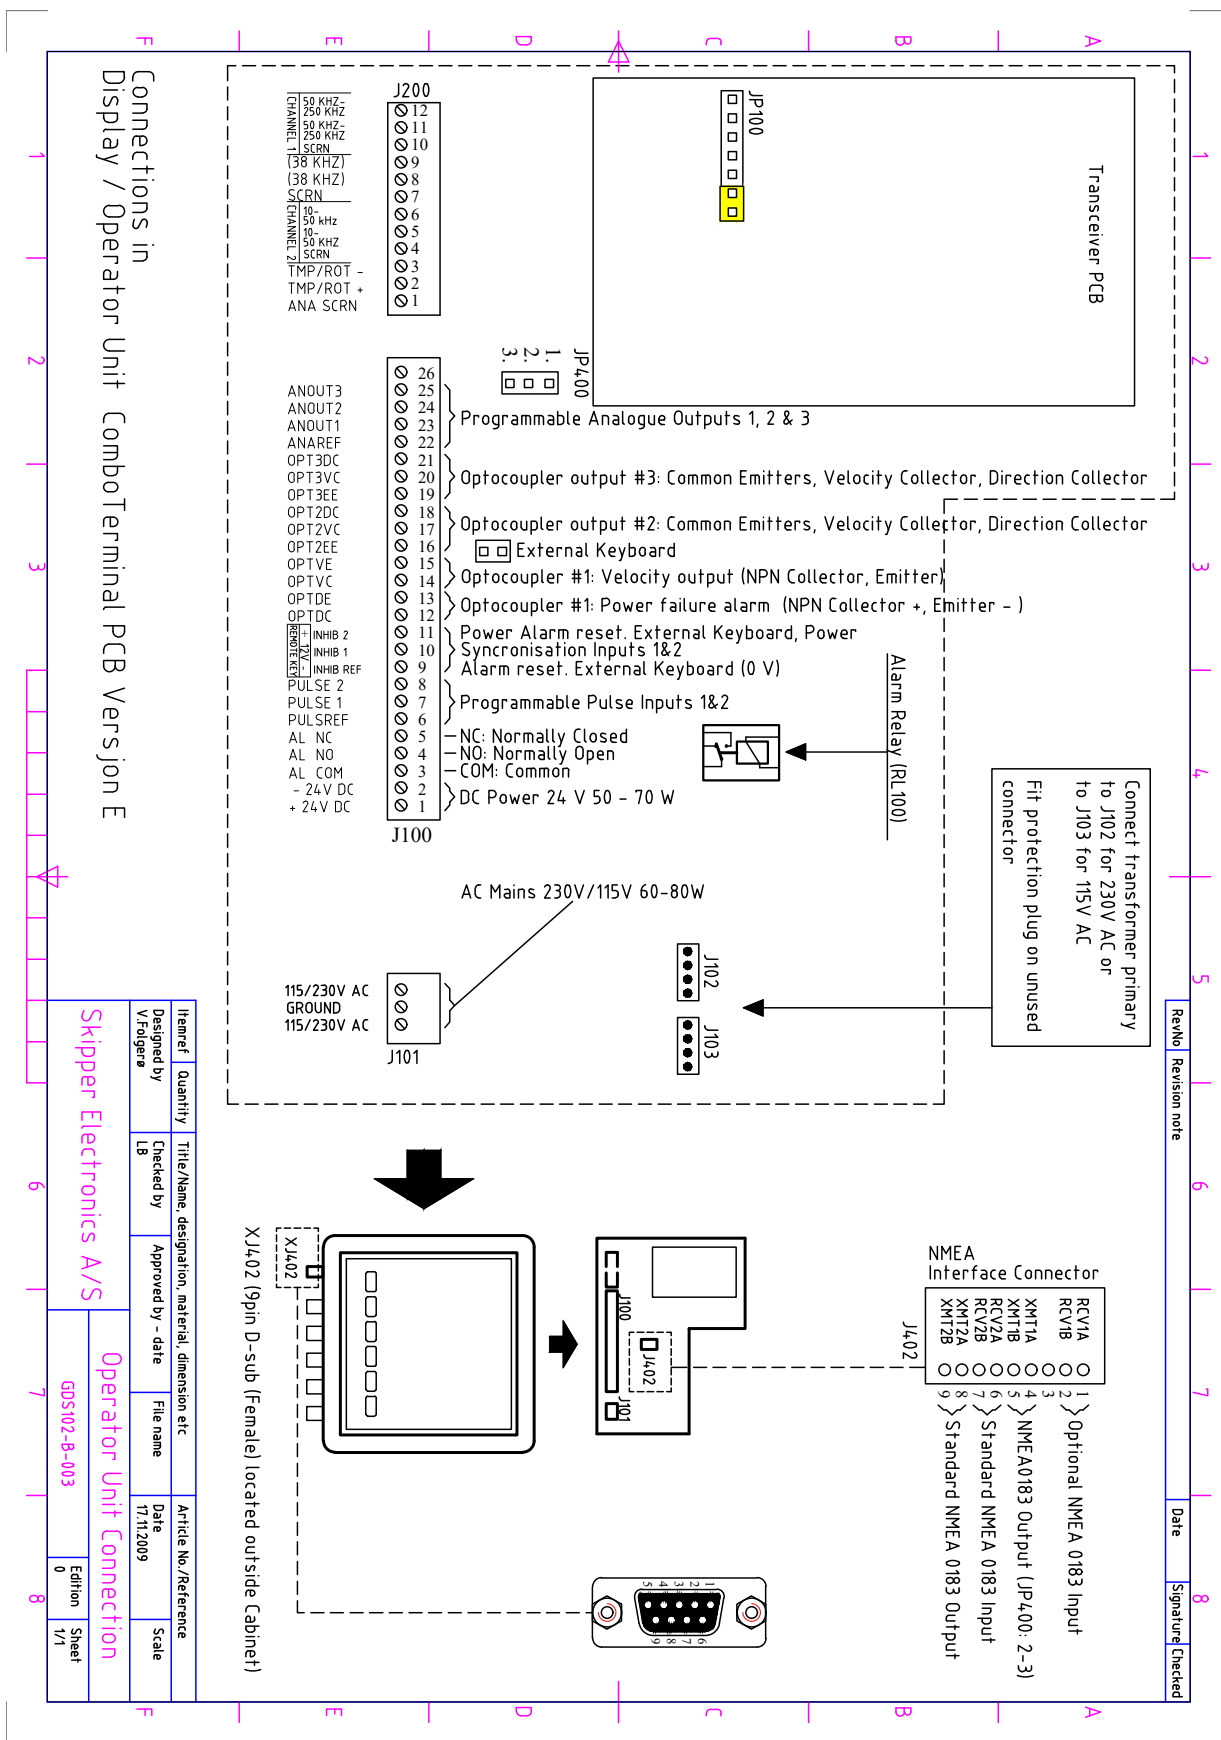
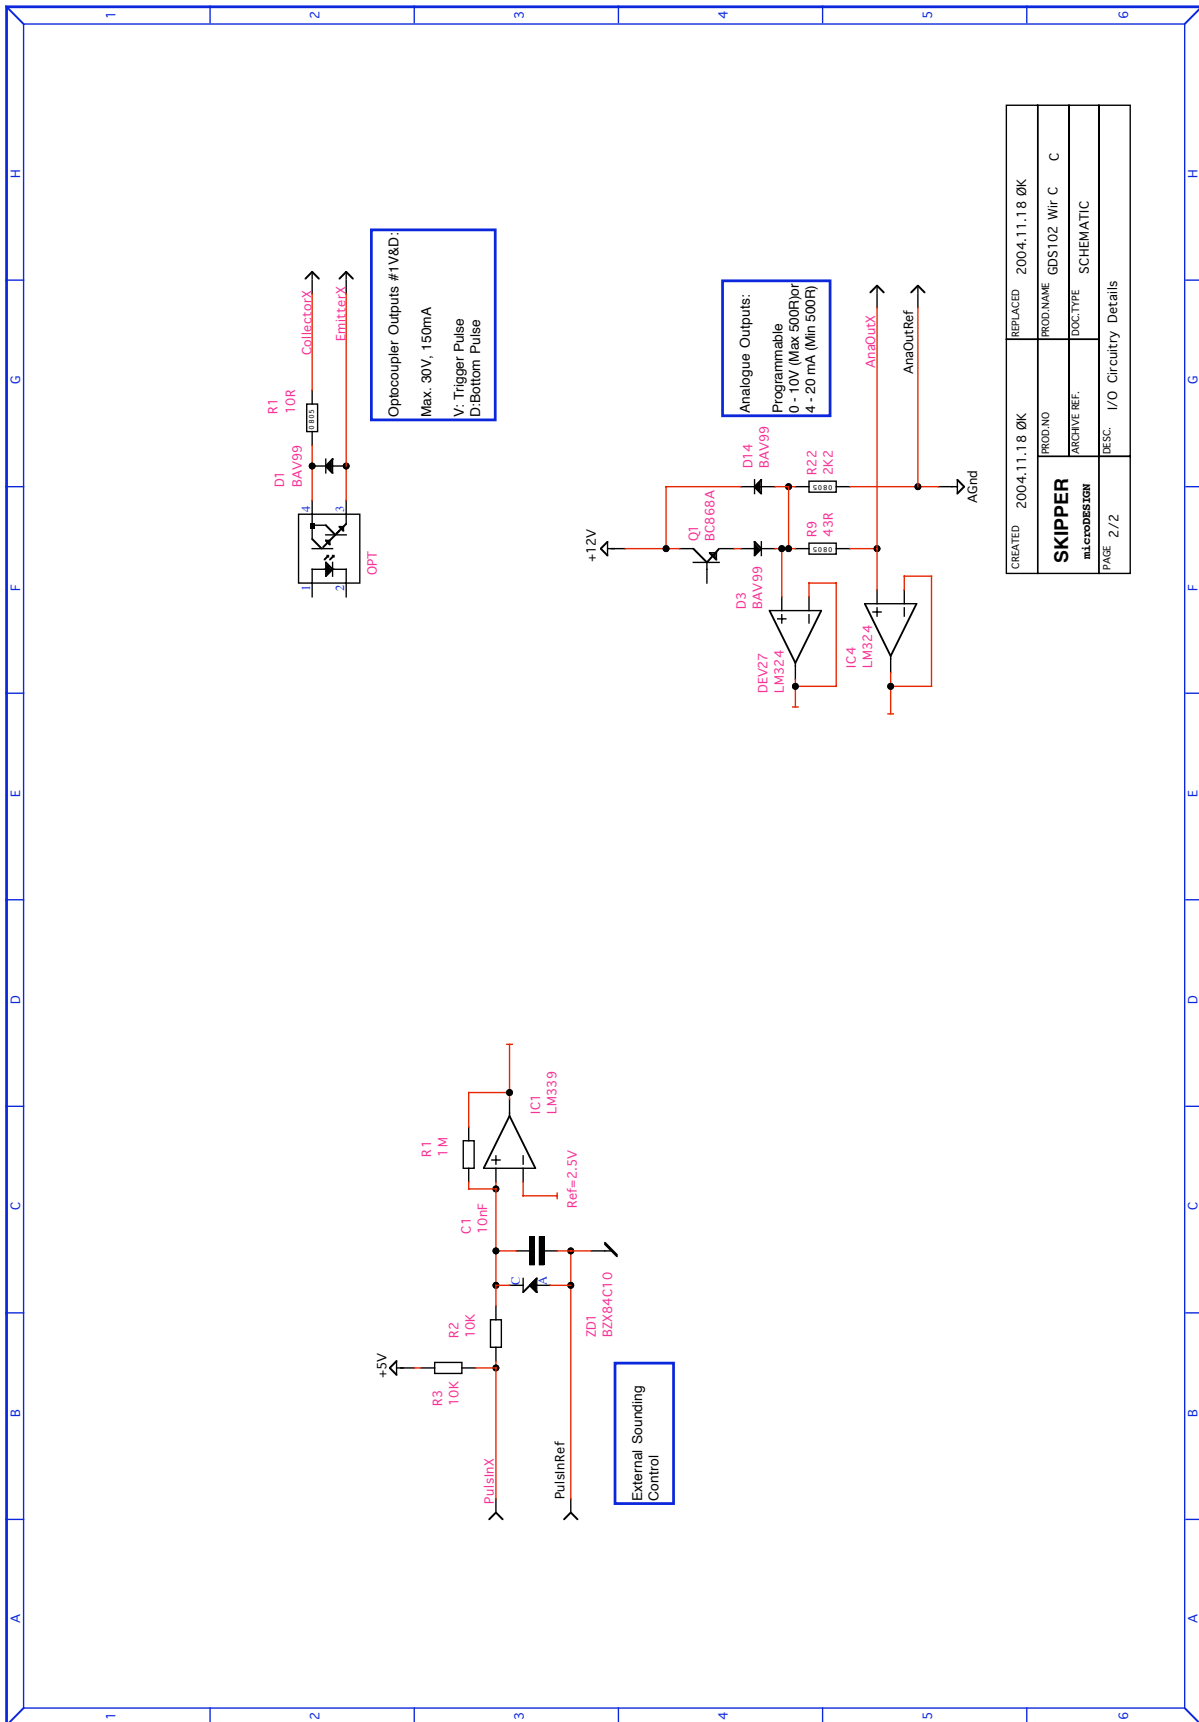
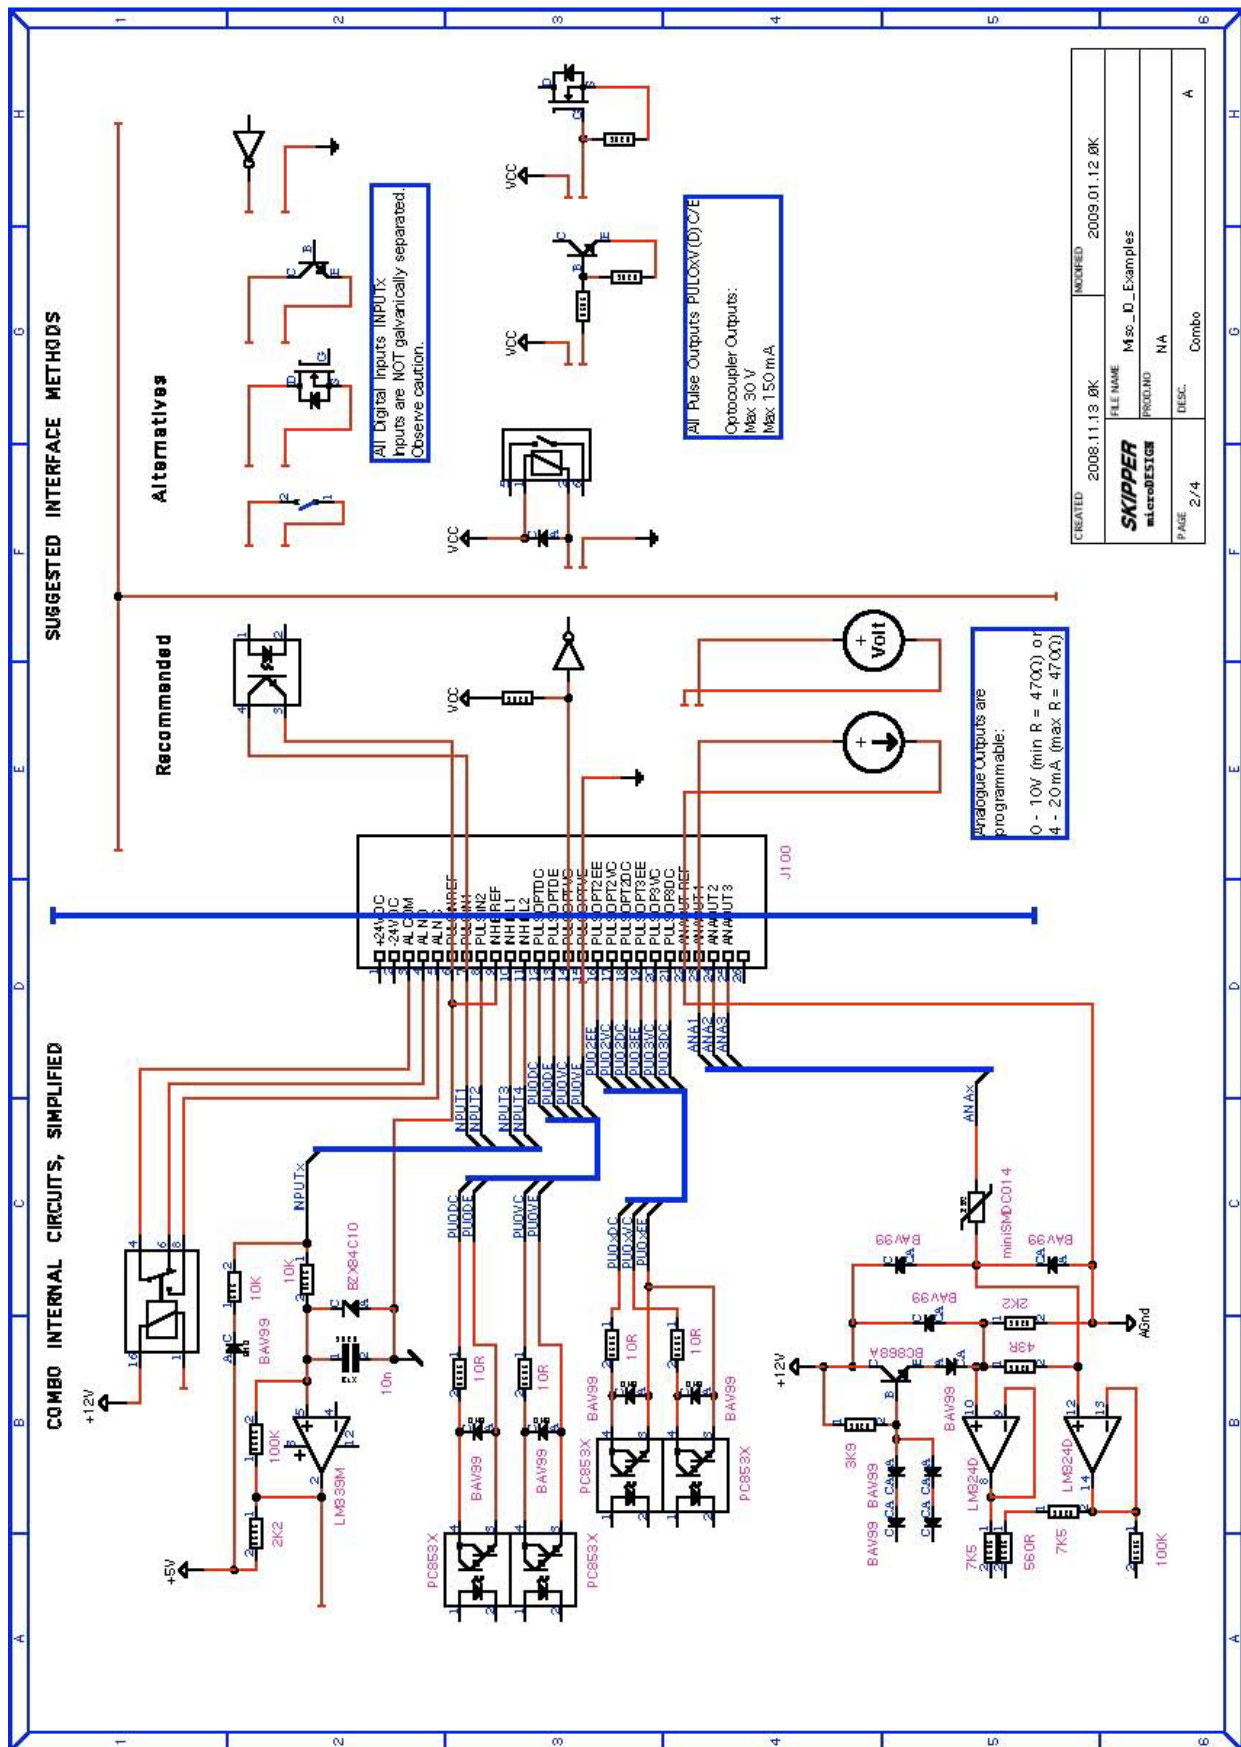
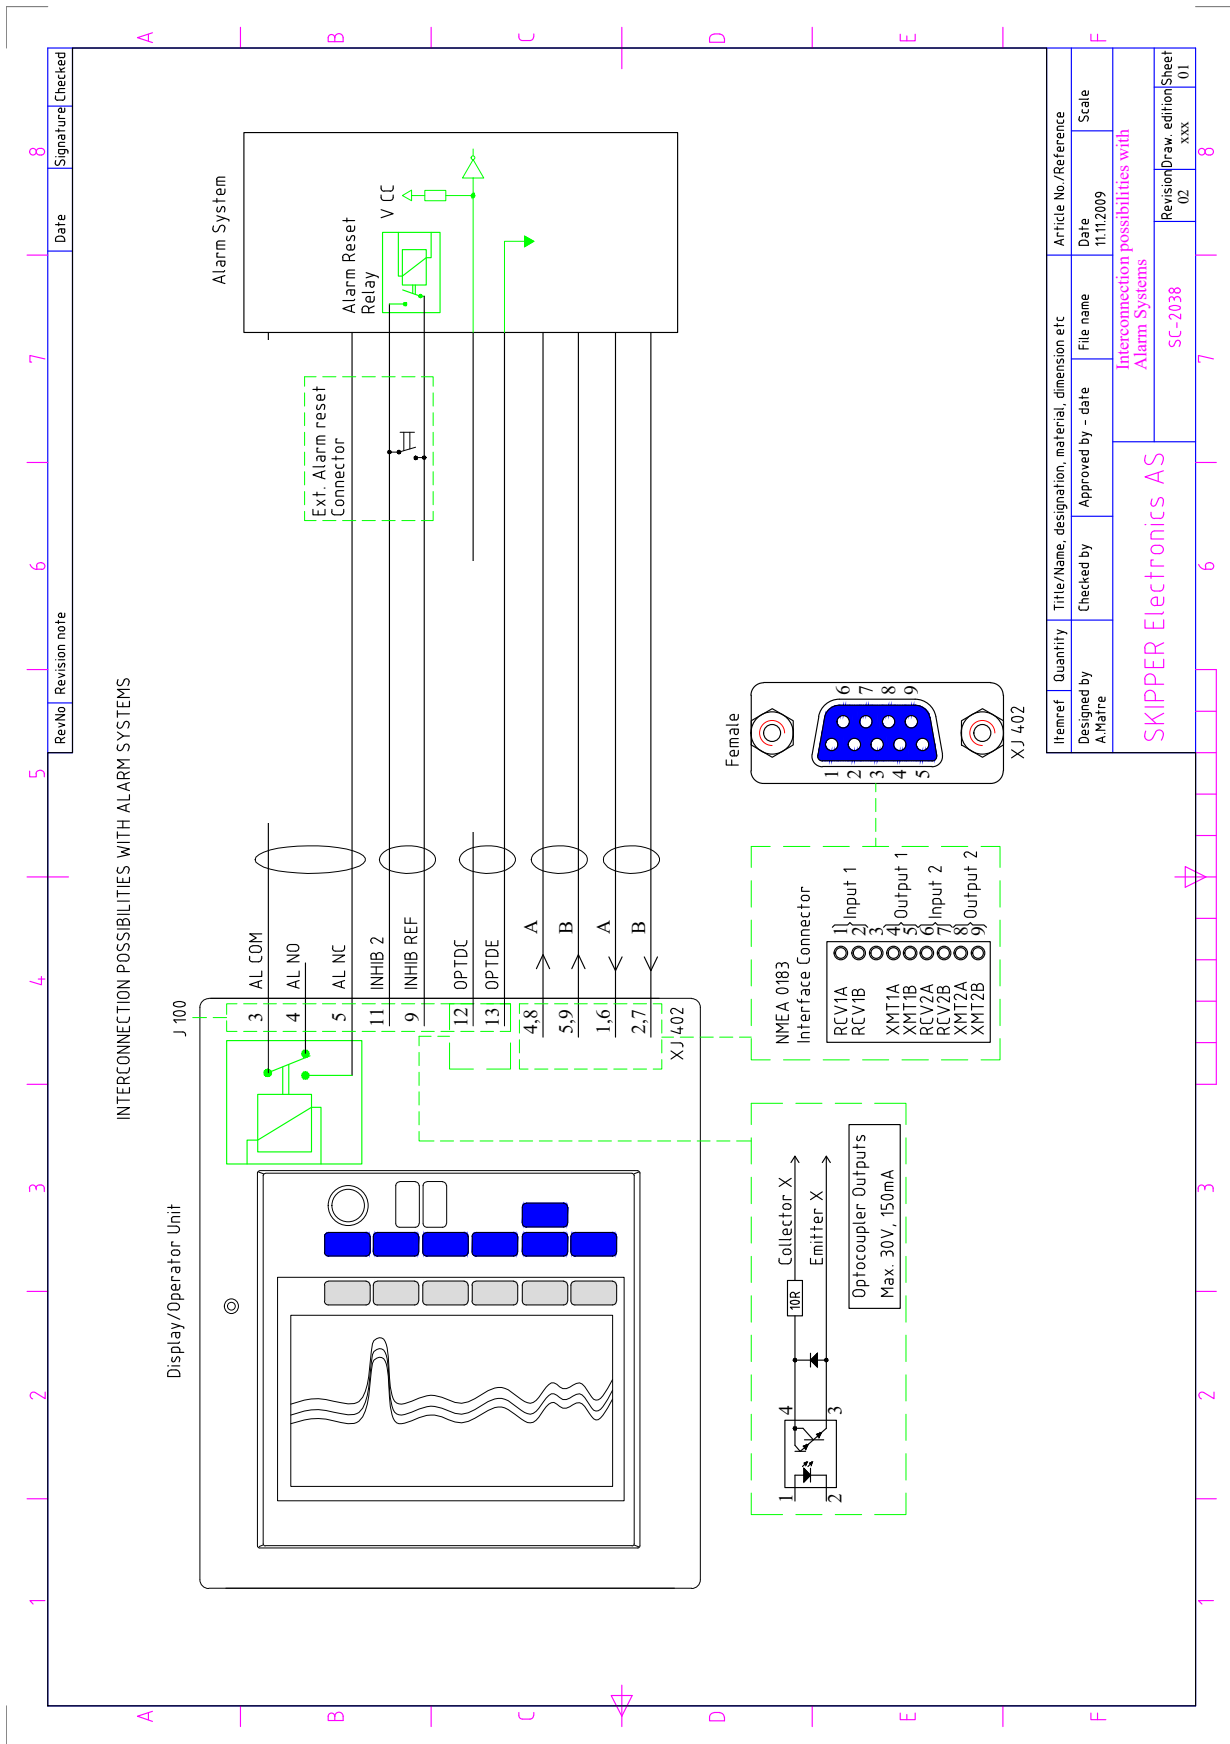

Fig. 3.8. Terminal board connections
Fig. 3.9. Input/Output Circuitry 1
Fig. 3.10. Input/Output Circuitry 2
Fig. 3.11. Input/Output Circuitry 3
The GDS102 NMEA outputs provide NMEA 0183 format information for other equipment with NMEA 0183 inputs. Baud rate is 4800 or 9600, 8 bit, no parity. Several messages may be selected on screen 10 (see “Fig. 2.11. Screen 10. NMEA control screen.” on page 23) and the enabled messages are transmitted with a maximum interval of one per second. The NMEA inputs accept speed, position, heading and UTC time messages from various navigators and compasses. The NMEA outputs and inputs are available on the XJ402 connector on the external panel. See “Fig. 3.5. Data Communication Interfaces.” on page 42, “Fig. 3.6. Data Communication Interfaces.” on page 43, “Fig. 3.8. Terminal board connections” on page 48 and “Fig. 4.1. nmea connector XJ402.” on page 55 for more details. Each of the outputs can supply more than 20 mA and can therefore drive at least 10 other standard NMEA 0183 inputs.
**Note:** The factory setting of jumper JP400 on the terminal board (underneath the dual transceiver PCB, see “Fig. 3.8. Terminal board connections” on page 48) is 1 to 2, providing two individually controlled NMEA outputs. If the jumper is moved in position 2 to 3, both outputs are controlled (baud rate and scope of transmitted sentences) by the settings of NMEA PORT 2 on screen 10. If the jumper is removed, only one NMEA output is available (NMEA PORT 2). In the last case, the settings for output of COM PORT 1 have no meaning. Both NMEA inputs are always available and individually programmable (baud rate) regardless of the setting of JP400.
See “Fig. 3.8. Terminal board connections” on page 48, “Fig. 3.10. Input/Output Circuitry 2” on page 50 and “Fig. 3.11. Input/Output Circuitry 3” on page 51 for connection details.
GDS102 is equipped with 2 analogue outputs to supply analogue repeaters or other equipment with analogue inputs. The signals are galvanically connected to the GDS102. Standard range is 0 - 10 V or 4 - 20 mA corresponding to shallow (ANA UPPER) and deep (ANA LOWER) settings. For more details, see “Fig. 2.8. Screen 7. Interface setup screen.” on page 20, “Fig. 3.8. Terminal board connections” on page 48, “Fig. 3.9. Input/Output Circuitry 1” on page 49, “Fig. 3.10. Input/Output Circuitry 2” on page 50.
Two optocoupler outputs provide a transmitter trigger pulse and bottom pulse output. These outputs can be used to connect a repeater e.g. SKIPPER IR201, or to synchronize other hydroacoustic equipment to avoid interference. See “Fig. 3.8. Terminal board connections” on page 48, “Fig. 3.9. Input/Output Circuitry 1” on page 49 and “Fig. 3.10. Input/Output Circuitry 2” on page 50 for output details.
The unit may optionally be operated from a remote keyboard. If you have combo terminal PCB version E (or higher), a jumper is provided (JP900) for 12 V. See “Fig. 3.8. Terminal board connections” on page 48. Otherwise modifications must be made (contact SKIPPER).
This option lets the GDS102 being controlled remotely in continuous/edge/level/single ping modes. If installed, these options are accessible on screen 3. See “Fig. 2.4. Screen 3. Power adjustment and options.” on page 16, “Fig. 3.8. Terminal board connections” on page 48, “Fig. 3.9. Input/Output Circuitry 1” on page 49 and “Fig. 3.10. Input/Output Circuitry 2” on page 50 for more details.